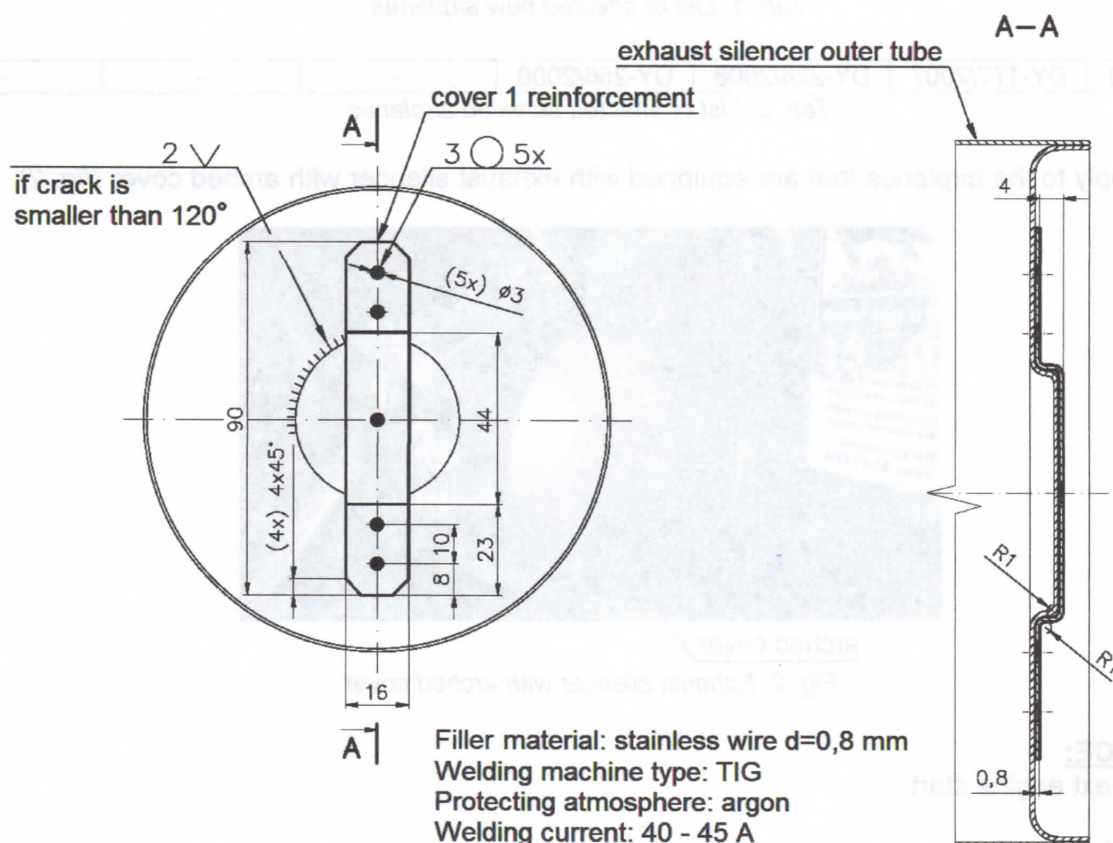

Fig. 4 Crack welding and modification of right cover of exhaust silencer
- A. If visible cracks are not detected, perform the modification according to figure (fig. 4) at the nearest periodical inspection (required material A).
- B. If visible cracks are detected in smaller range than 120° of circular flange, perform immediate the repair of cracks by welding and the modification according to figure (fig. 4) (required material B).